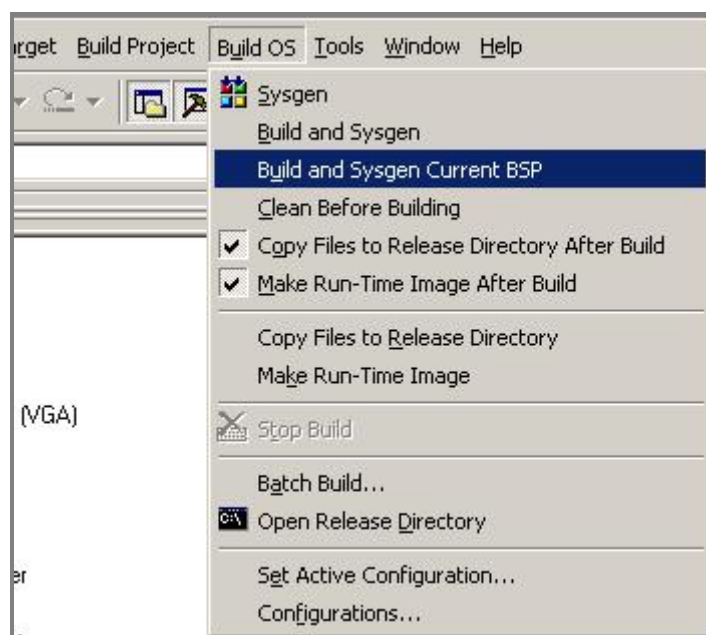

Figure 4-6 Incremental OS Image Build
9. Select **Build OS > Build and Sysgen Current BSP** to perform an incremental build of the BSP platform directory and complete the creation of an OS image (Figure 4-6).